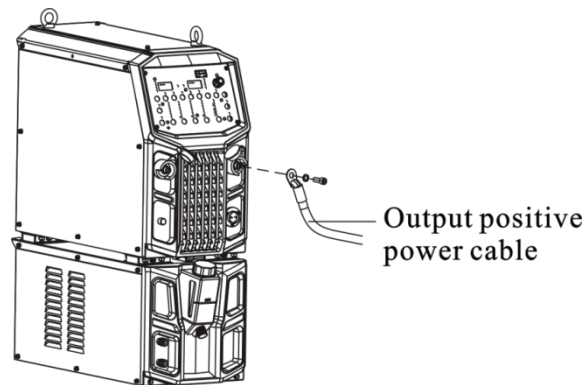

Figure 2-3 Connection of output positive power cable
3. Use an allen wrench to tighten the M10 screws, as shown in Figure 2-3.